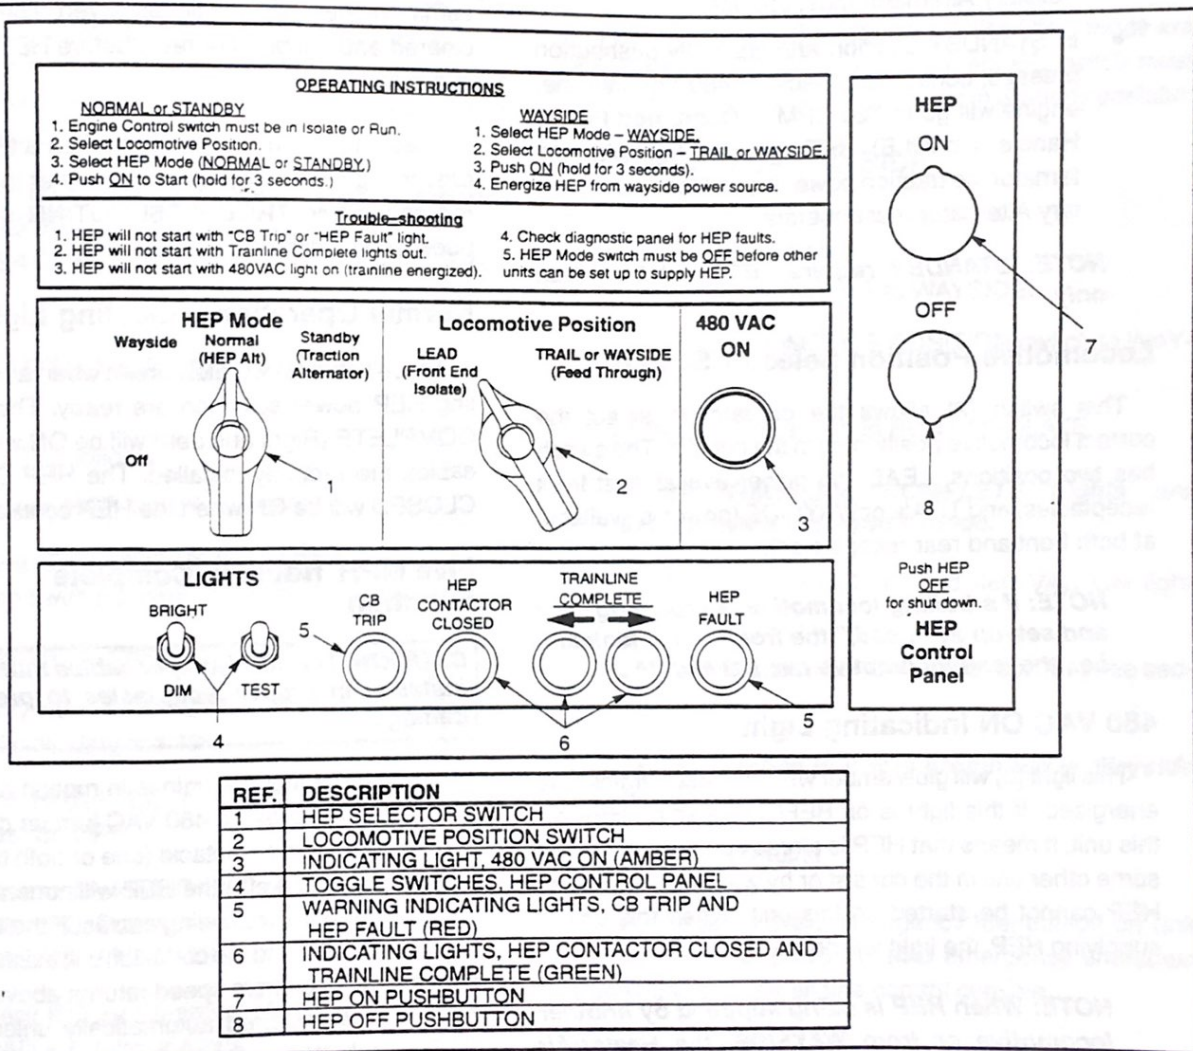

FIG. 57. HEAD END POWER CONTROL PANEL. E-41023A.
**NOTE:** Numbers in parentheses ( ) refer to items found on Figure 57 of this publication unless noted otherwise. See Railroad specific operating procedures for proper use of this panel.